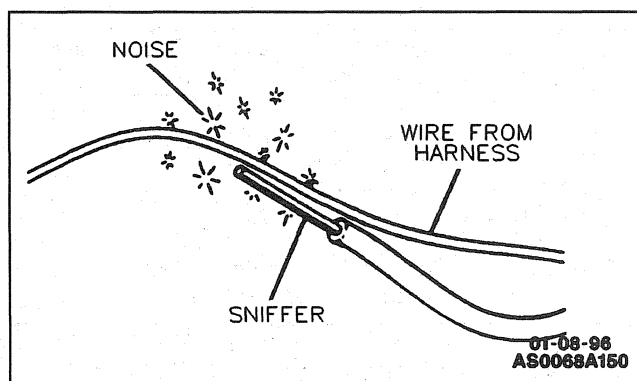

Figure 2—Checking for Noise on a Wire
3. Search for the noise source, keeping fingers off the 2" probe. When checking for noise on wire, the best results will be achieved when the sniffer is placed parallel to the wire, see Figure 2.